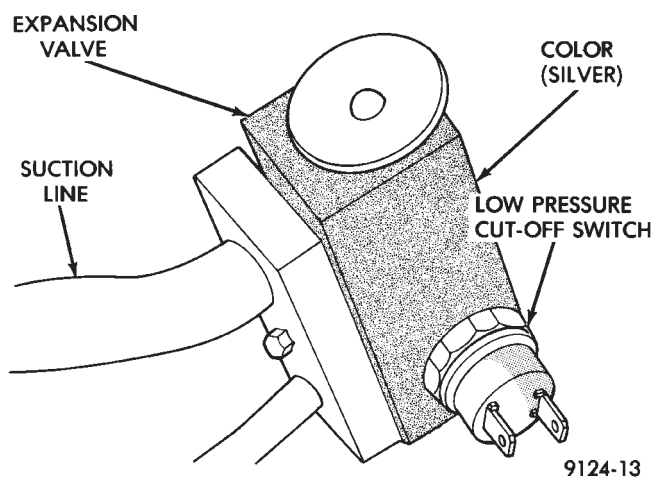

Fig. 13 Low Pressure Cut-Off Switch and Expansion Valve—Typical
(1) Disconnect the boot like wire connector at the cut-off switch.
(2) Using a sender unit type socket, remove the switch from the expansion valve (Fig. 13 or 14).